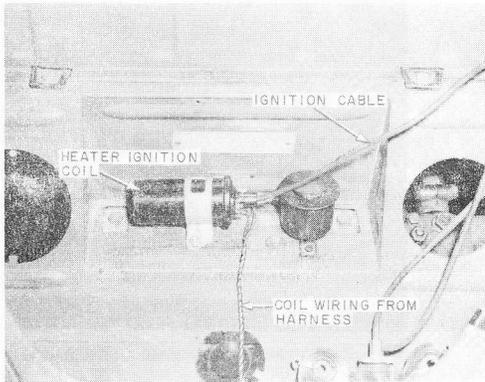

FIGURE 3
1. Using the ignition coil mounting bracket as a tamplate, place on small shelf behind spare tire and drill two (2) No. 13 holes for two (2) No. 14 sheet metal screws. (See Figure 3)
2. Mount ignition coil in horizontal position on shelf floor with the ignition cable end toward the left side of the vehicle. (See Figure 3)
14. The last and remaining finger of the harness is to be fed forward and down to the spare tire compartment and to the foremost bulkhead where it will follow the loom crossing the compartment. In the approximate center of the vehicle, this wire should turn and follow toward the fuel tank (up and aft) to the small shelf behind the spare tire. (See Figure 3)